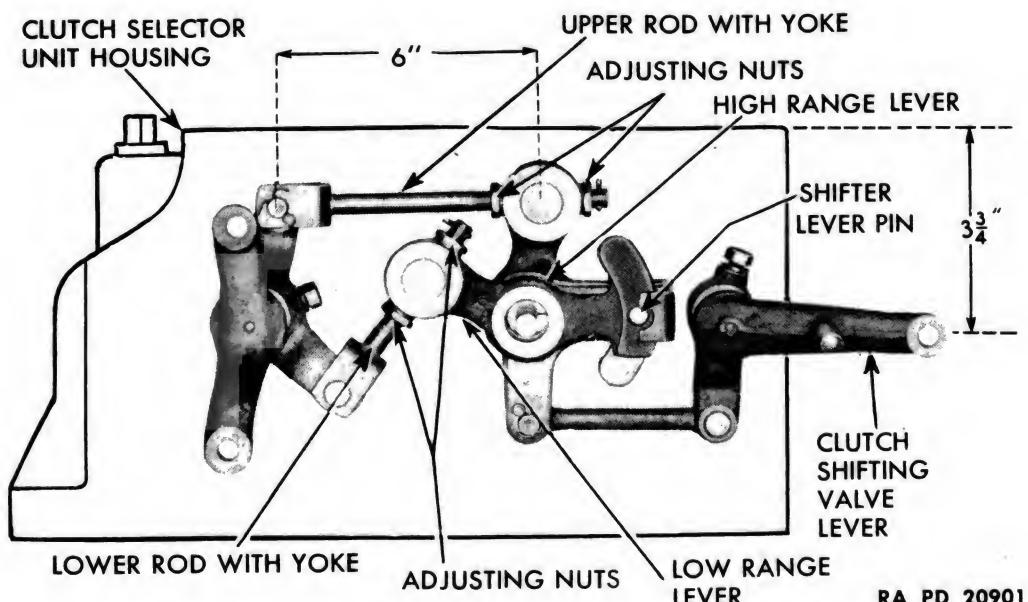

Figure 172 — Clutch Selector Linkage
(1) To adjust the clutch selector, first drain the oil, and then remove housing cover, side cover, and toggle support assembly (subpar. b (1) to (10) inclusive).
(2) Turn adjusting nuts on upper rod with yoke to a measurement of 6 inches between the center of the pin in the yoke to the center of the pin in the high-range lever (fig. 172). Then tighten adjusting nuts securely.
(3) Move shifting lever pin sideways until the high-range lever, intermediate lever, and low-range lever are locked together by shifting lever pin. Turn adjusting nuts on lower rod with yoke until the clutch shifting valve lever is in a horizontal position. This horizontal position can be checked with a measurement of $3\frac{3}{4}$ inches from the top finished surface of the selector housing to the center of the pin hole in the end of the lever (fig. 172). To measure this distance, place a straightedge across the top finished surface of the clutch selector housing, extending the straight edge over the clutch shifting valve lever. Adjust nuts on lower rod with yoke so that the distance from the straightedge to the center of